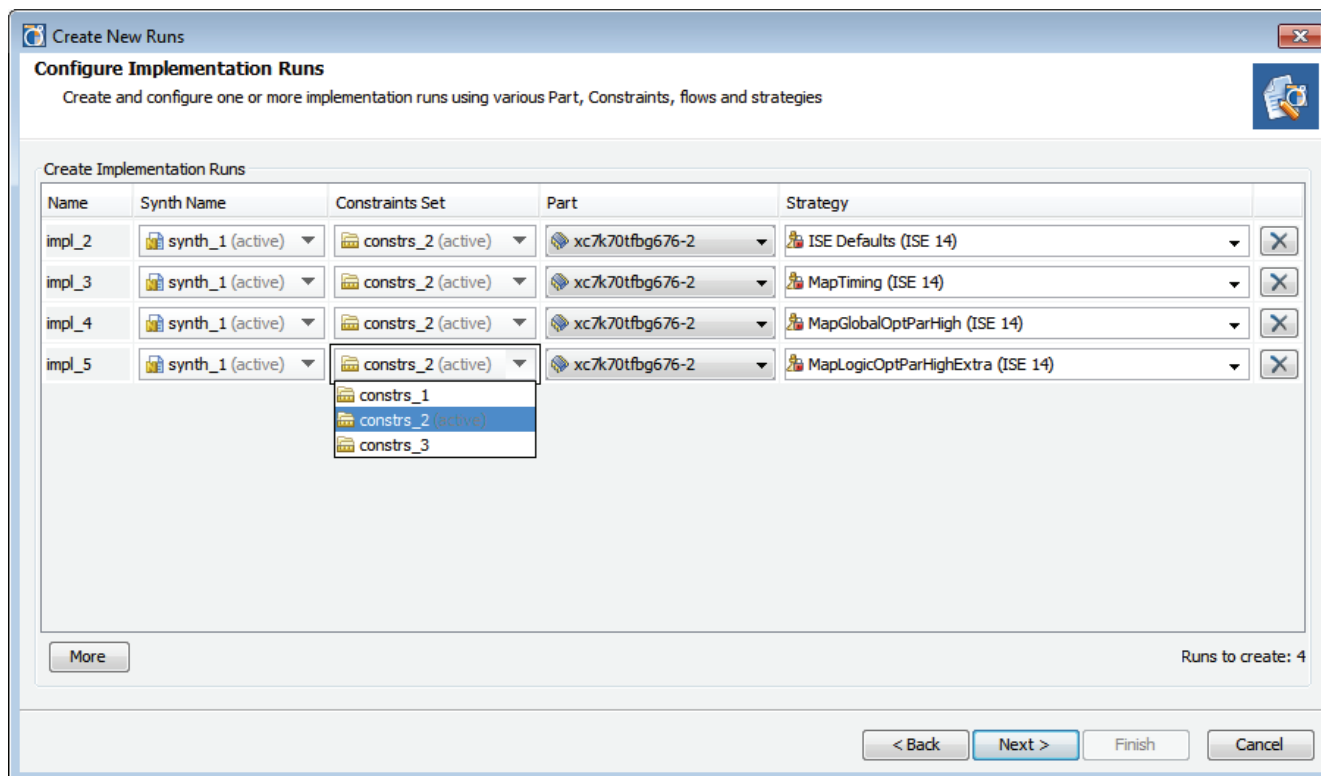

Figure 9-2: Design Runs View
The **Configure Implementation Runs** dialog box opens, as shown in Figure 9-2.
7. Click the **More** button to define additional runs. Specify names and strategies for the added runs as shown in Figure 9-2, page 288.